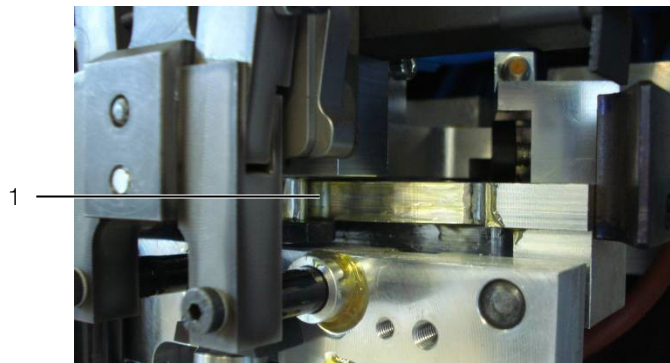

Fig. 22: Tool slide
- Lubricate the contact surface (fig. 22, item 1).